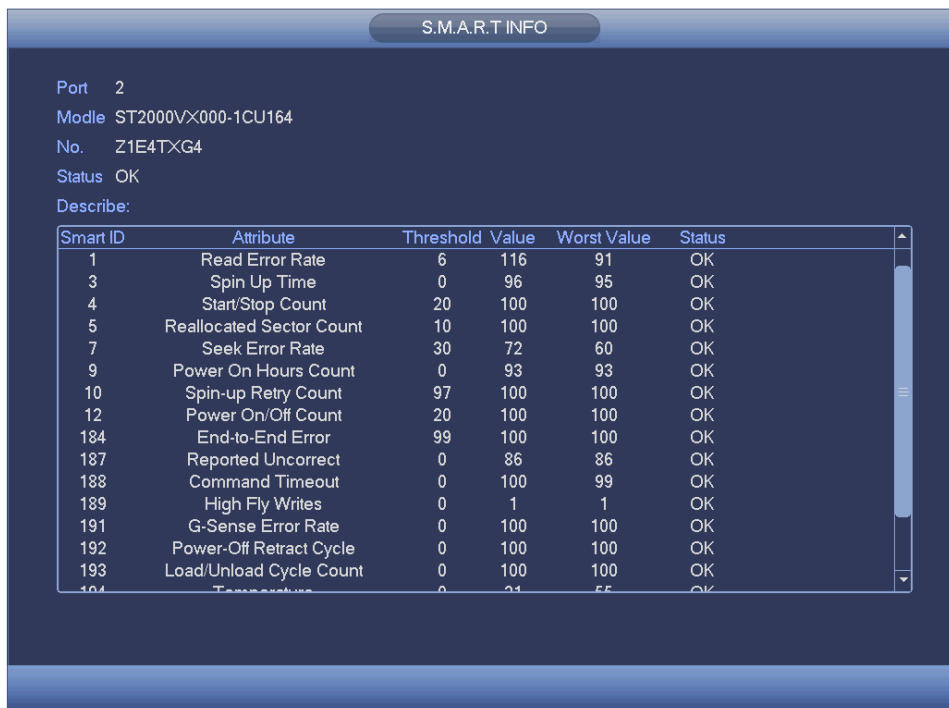

Figure 4-84
- SMART: Display HDD information. See Figure 4-84.
Double click one HDD information; you can see the HDD SMART information. . See Figure 4-84.